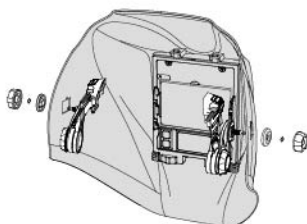

fig.14
- Place each adapter into the helmet shell assembly points and screw main connection knob until secure (See fig.14).